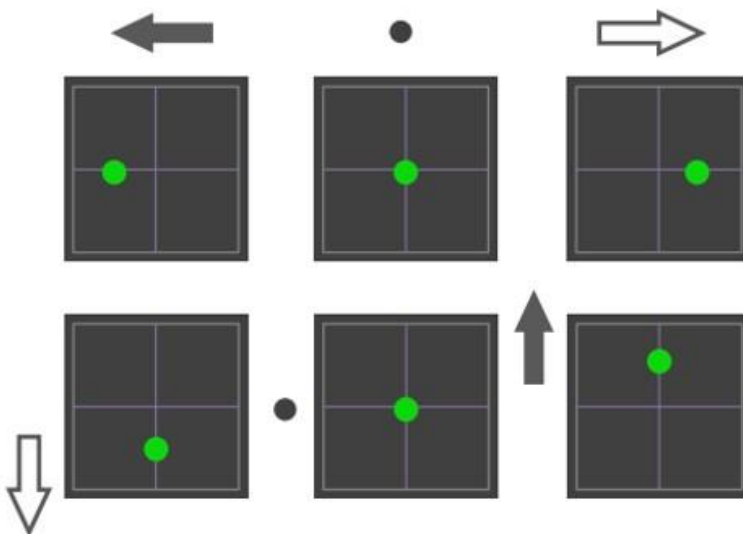

Figure 5: Detector positioning
- Look at the graph in the corner of the camera screen and adjust the knobs to bring the dot into the center. If the dot does not move when you turn the knob, look at the intensity. If the intensity is decreasing, then you are turning the knob the wrong direction. See **Figure 5**.